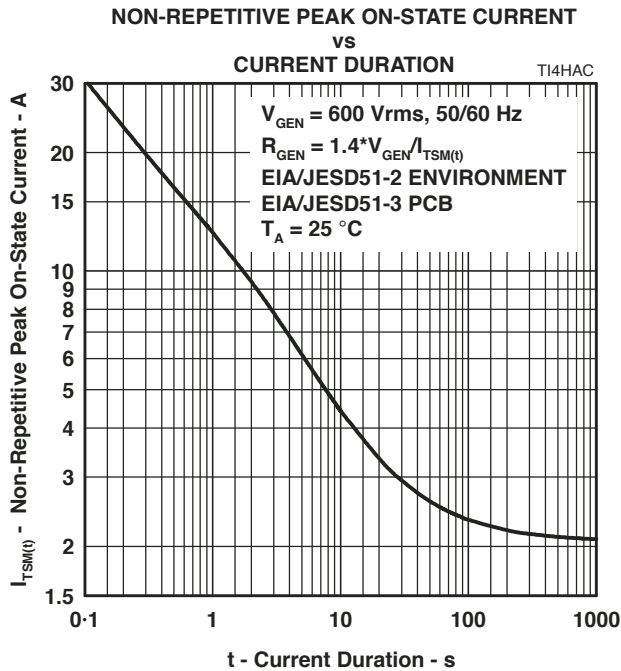

Figure 7.
5. EIA/JESD51-2 environment and EIA/JESD51-3 PCB with standard footprint dimensions connected with 5 A rated printed wiring track widths. See Figure 7 for the current ratings at other durations. Derate current values at $-0.61\text{ }^\circ\text{C}$ for ambient temperatures above $25\text{ }^\circ\text{C}$.
The protector can withstand currents applied for times not exceeding those shown in Figure 7. Currents that exceed these times must be terminated or reduced to avoid protector failure. Fuses, PTC (Positive Temperature Coefficient) resistors and fusible resistors are overcurrent protection devices which can be used to reduce the current flow. Protective fuses may range from a few hundred milliamperes to one ampere. In some cases, it may be necessary to add some extra series resistance to prevent the fuse from opening during impulse testing. The current versus time characteristic of the overcurrent protector must be below the line shown in Figure 7. In some cases, there may be a further time limit imposed by the test standard (e.g. UL 1459/1950 wiring simulator failure).